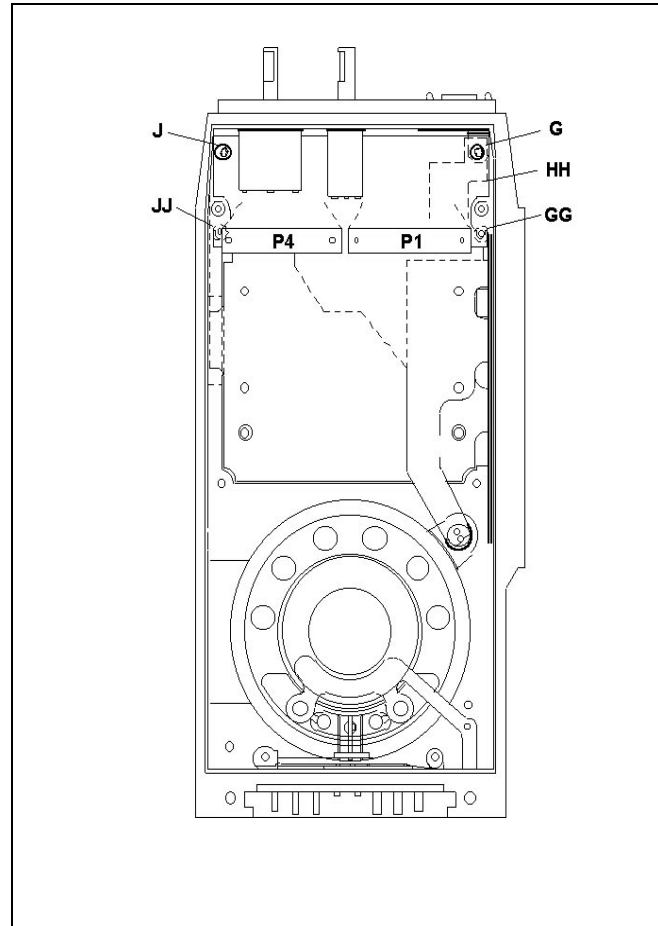

Figure 10 - Keypad Flex and LCD Board Access
To remove the Keypad Flex, first remove the UDC Flex/UDC/Monitor Button/PTT Switch assembly as previously stated. Next remove the knobs using the hex driver. Unscrew the two (2) screws securing the top panel and lift and remove the panel. Lift the Emergency Button Board by carefully unplugging J6 from P6. With a spanner wrench, remove the nuts securing the volume and channel controls and carefully slide the controls inside the radio. Unscrew the two (2) screws (G and GG) and remove the J10/P10 Zebra strip securing plate (HH). See Figure 10. The Keypad Flex is now free for removal.
After the top areas of the Keypad Flex have been freed as previously outlined, the LCD Board can be removed. At this point in the disassembly process an earlier Front Cover Assembly has two (2) screws on the left side as viewed from the back (J and JJ) and a later assembly has a single screw in the upper left-hand side (J). See Figure 10.